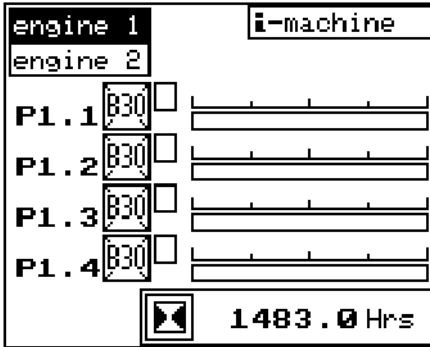
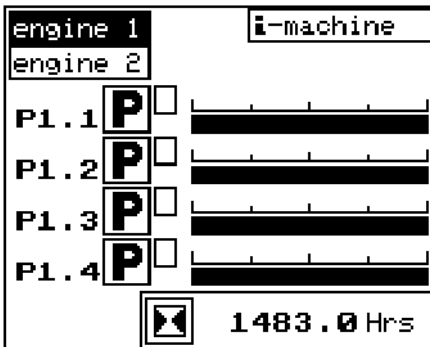
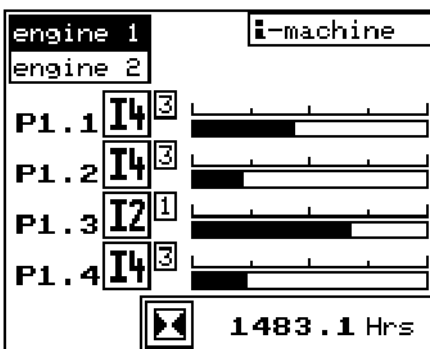

Fig. 13
Fig. 14
Fig. 15
- If the pump receives a flow control signal (“B30” means no control signal, pump is at minimum swivel angle, Fig. 13).
- If the pump receives the maximum control signal (“P” means the maximum swivel angle for the pump is allowed, Fig. 14).
- If an external flow limitation is activated for the pump. The Fig. 15 shows an example with two external flow limitations (input I2 and I4) activated.
- The graphic bar indicates for each pump the amount of the maximum authorized flow control signal (= pump swivel angle reference), as an example the reference for pump P2 is 0% in Fig. 13, 100% in Fig. 14 and approx. 20% in Fig. 15.